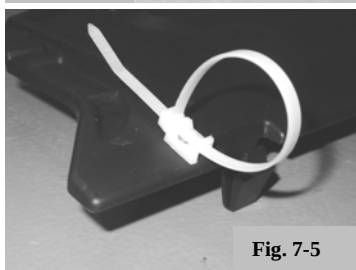
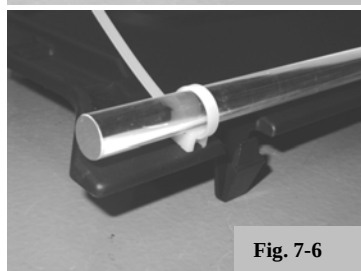

Fig. 7-5
Fig. 7-6
- (2) Be sure the wire tie goes through both "loops" of the plastic mount. (Fig. 7-5)
- (3) Do not fully tighten at this point.
- (4) Install the L/G assemblies into the mounts. The L/G assemblies should be oriented with the white "reflector" at the top, the L/M positioned toward the center of the vehicle with the wires forward. (Figs. 7-6 & 7-7)